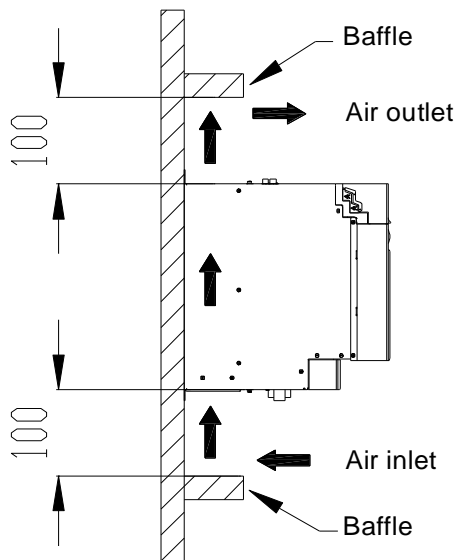

Figure 4-4 Clearances from the upper and lower barriers (the preceding sizes are the minimum, unit: mm)
- ◇ A minimum ventilation clearance must be kept from the top and bottom of each unit to ensure good heat dissipation. For details, see Figure 4-4.